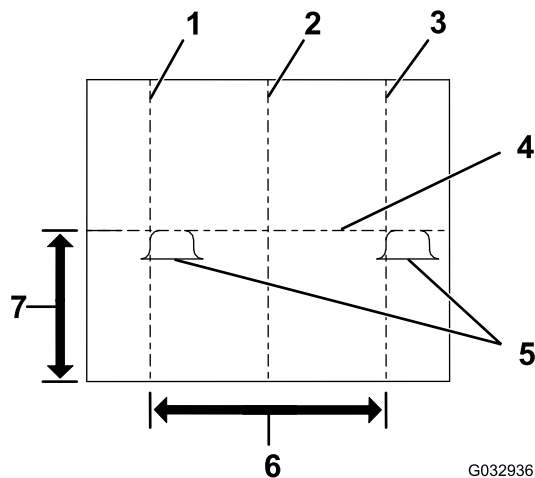

Figure 29
4. Mark the vertical vehicle centerline on the screen (Figure 29).
6. Mark the horizontal headlight centerline on the screen (Figure 29).
7. Adjust the plow headlights until the brightest part of the plow low-beam lights are aligned as shown in Figure 29.
5. Mark the vertical headlight centerline on the screen (Figure 29).